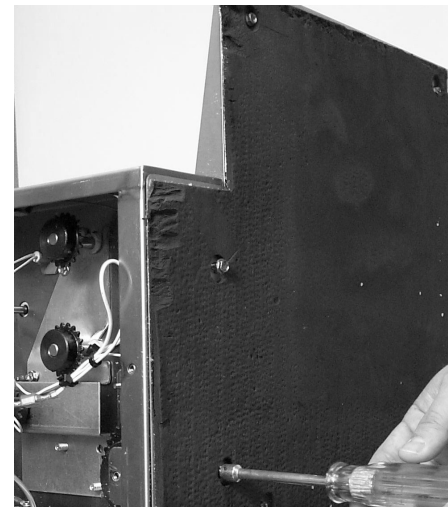

Fig. 1: These screws are removed and are replaced with provided ¼ x 20 bolts.
- Remove two left-most screws from toaster bottom plate. These are the screws immediately under the controller housing. Fig. 1.